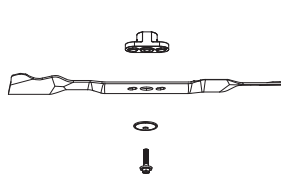
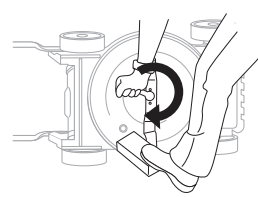

Fig.12B
Fig.12C
- Align the washer over the blade and insert the hex bolt. Tighten the hex bolt to the torque. (Fig.12B/Fig.12C)